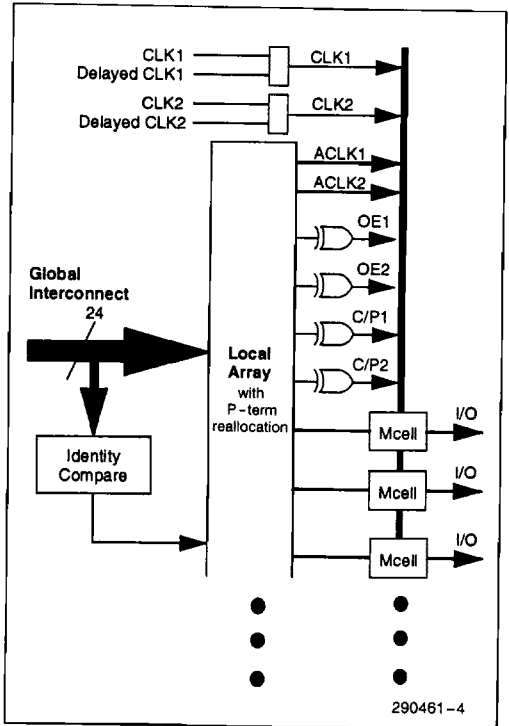

Figure 4. Control Signals
There are 4 control signals in each CFB in addition to the clocks (see Figure 4). These include two Output Enable (OE) signals, and two asynchronous Clear/Pre-set signals. Each control signal is generated by a single product term from the local 24V10 AND array with an inversion option. This allows multiple product term control equations to be implemented.